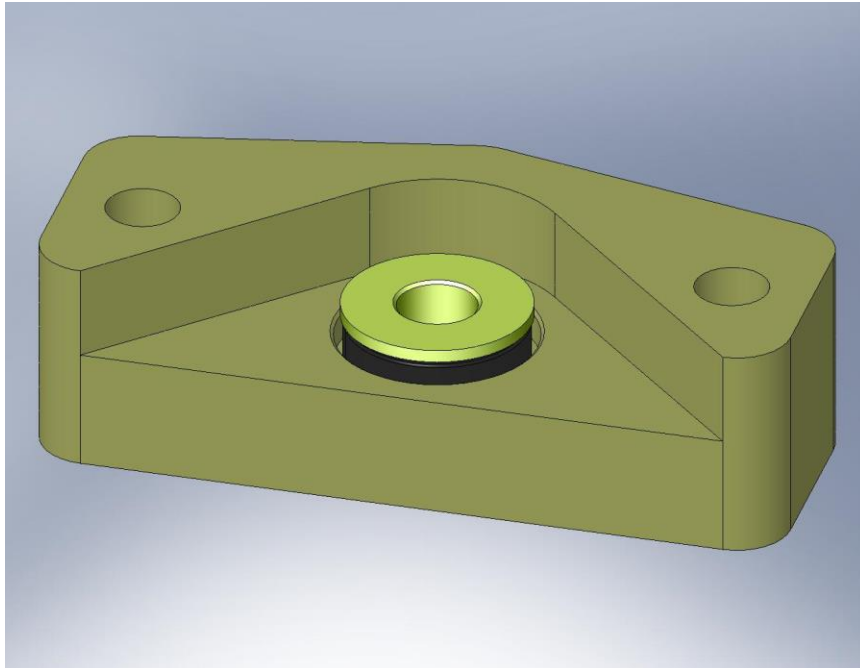

Figure 4.59. Conversion Bushing sitting inside the bearing.
- Insert **Spring Pull-Down Conversion Bushing** (D071304) through top side of combination bearing, as shown in Figure 4.59. (*The **Bushing** allows us to use the metric bearing with our English **ACME Screw**.*)